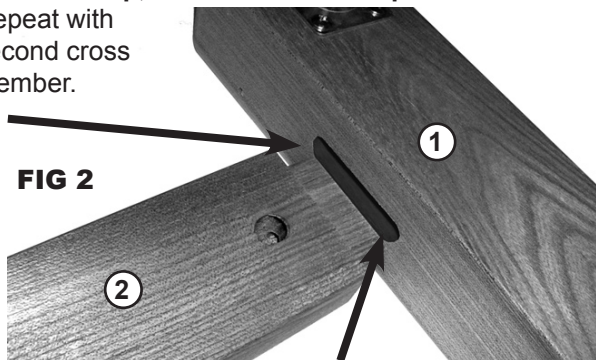

FIG 2
STEP 2. Attach the two Base Cross members (2) to the base feet (1) By inserting the oval male end of the Base Cross member into the oval female cut-out of the base foot. See Fig 2. **NOTE: The hole in the cross member should be up, since the base is upside down.** Repeat with second cross member.